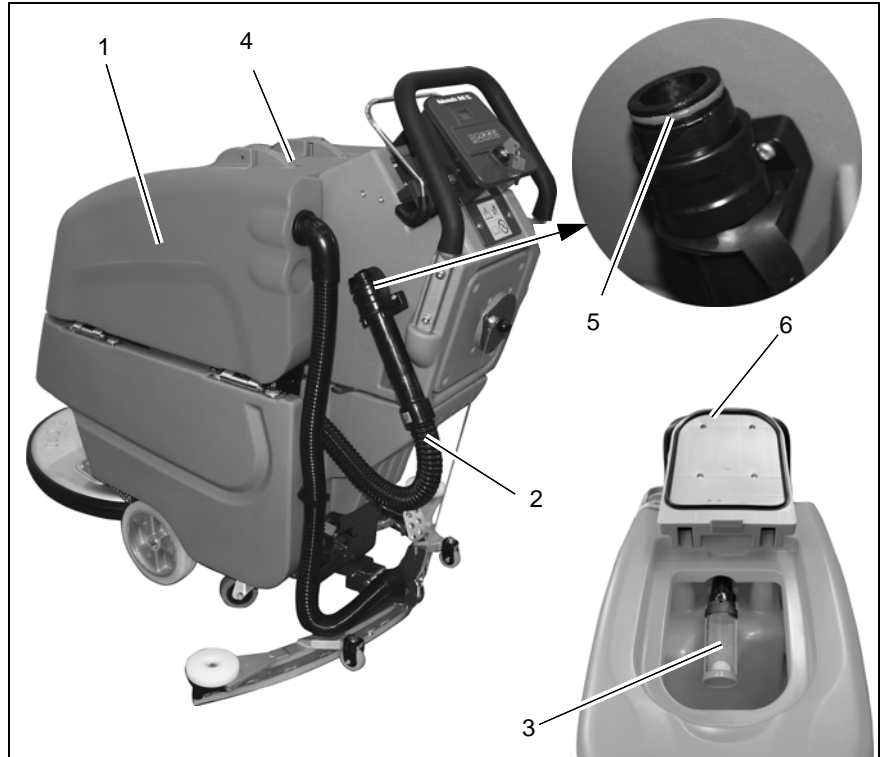

Fig.14
Clean soiled water tank (Fig. 14/1) at daily intervals, as required or upon acoustic signal (increased suction turbine speed).
4. Take drain hose (Fig. 14/2) from holder. Bend the drain hose in the front area.
Clean soiled water tank (Fig. 14/1) at daily intervals or as required.
2. Open tank lid (Fig. 14/4) of the soiled water tank.
3. Take drain hose (Fig. 14/2) from holder and empty soiled water tank completely.
Check suction filter (Fig. 14/3) for function at daily intervals and clean if required. The suction filter is clipped and can be easily removed.
Check the functionality of the seal from the drain hose (Fig. 14/5) daily and change it after 125 operating hours at the latest.
Check the functionality of the seal in the tank cap (Fig. 14/6) daily and change it after 125 operating hours at the latest.